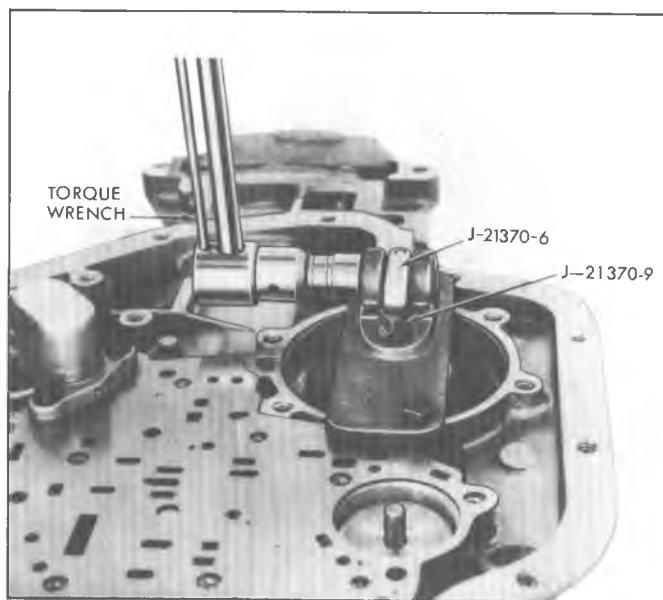

Fig. 7A-16C--Checking Rear Band Apply Pin, Models CB and CL
- c. Apply 25 foot-pounds torque to the lever on Tool J-21370-6 (Fig. 7A-16C). Selection of the proper rear band apply pin is determined by the relation of the flat on Tool J-21370-9 to the flat machined area around the hole on Tool J-21370-6.